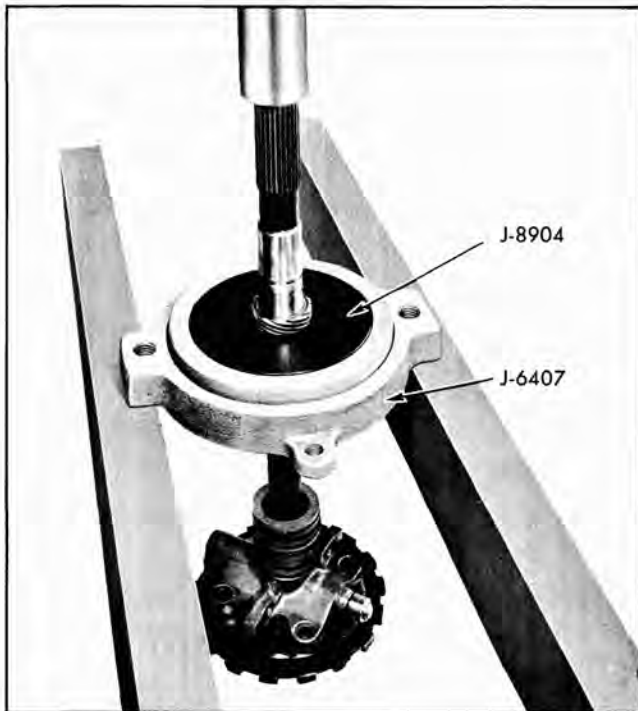

Fig. 51 Tool Set-Up for Removing Speedo Gear
13. Remove speedometer drive gear from output shaft by installing it in press plates J-8904 and holder J-6407 and pressing gear off of shaft (Fig. 51).